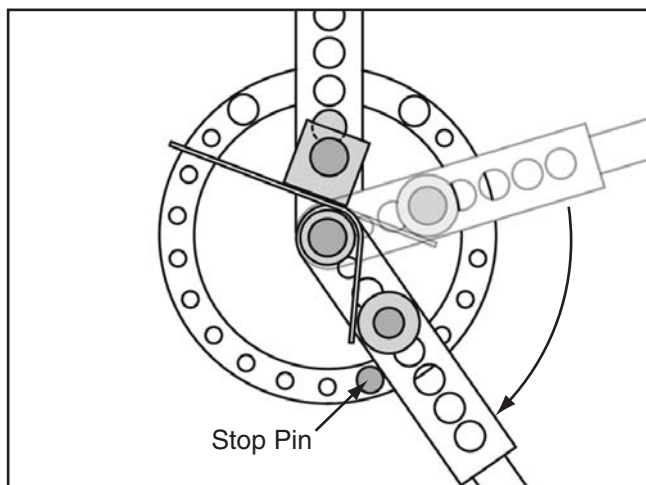

Figure 5. Making the basic radius bend.
5. To limit the bending range, install the stop pin in the appropriate hole in the outer ring of the bending bracket, as illustrated in **Figure 5**.
6. Bend the workpiece by pulling the handle towards you, as illustrated in **Figure 5**.